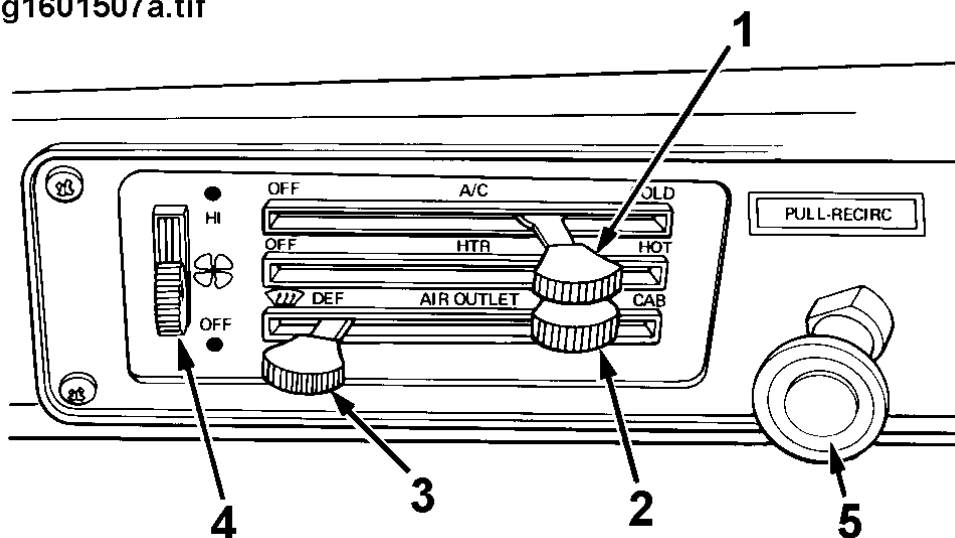

Figure 9 A/C Heater Control Unit
The control unit (Figure 9) is mounted in the instrument panel and provides the means of operating the system. The levers and pull knob operate push-pull cables that are connected to the control switches and devices in the system. The HTR lever sets the amount of heat desired from OFF to HOT. The AIR OUTLET lever sets the air distribution from DEF (defrost air to windshield only) to CAB (air to floor ducts only). The A/C lever sets the amount of cooling desired from OFF to COLD. All of these controls are proportional and provide more or less heat, cold, and air mix (windshield to floor outlets) in relation to the position of the lever. Heat and cold can be used together to dehumidify the cab.
Fresh outside air is selected by pushing the PULL-RECIRC knob on the instrument panel (Figure 9). With both the heating and cooling controls at OFF, fresh air flows through the instrument panel and floor ventilation outlets. To increase the amount of fresh air entering the cab in the ventilation mode, the blower can be used. The fan speed and air outlets can be adjusted to obtain the desired air flow.
4. Adjust PULL-RECIRC knob (Figure 9) by turning its cable adjuster to set clearance from the bottom of the knob to the bezel nut on the instrument panel at 0.1 inch (2.5 mm).